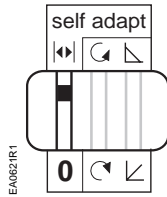

Figure 12. Self-adapt Switch in the On Position.
1. To use the entire 0 to 10V input signal to control the adjusted range, raise the tab located on the lower left-hand side of the actuator and locate the DIP switches. See Figure 12.
2. Set the self-adapt DIP switch to (ON).